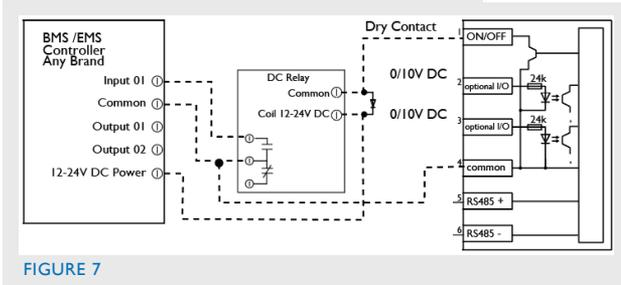

FIGURE 7
4. Optional Relay Configuration (relay by others), See Figure 7. The unit can provide form C Relay Contacts by adding a DC relay. The relay is shown with a EMF diode for protection of the ionzer.